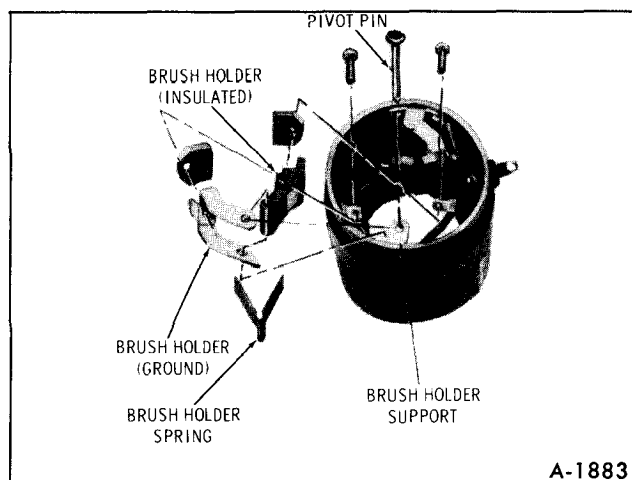

Figure 44-Brush Installation
5. If necessary to replace brush holder parts, refer to Figure 44, then proceed as follows: